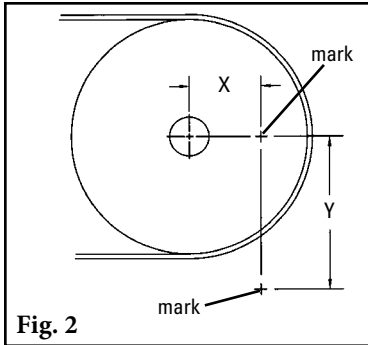

Fig. 2
- Lay out the dimensions on the chute wall.** Measure out the X dimension horizontally from the center of the pulley shaft and mark. (**NOTE:** It may be easier to put a level on top of the pulley shaft, draw a horizontal line and then measure down half the diameter of the shaft and make a line from the front of the shaft. Now subtract half the pulley shaft diameter from the X coordinate and measure on the line and make a mark.) Then measure down vertically the Y dimension and mark. This is the correct position for the center of the cleaner pole (Fig. 2). Lay out and mark the same dimensions on the other side.